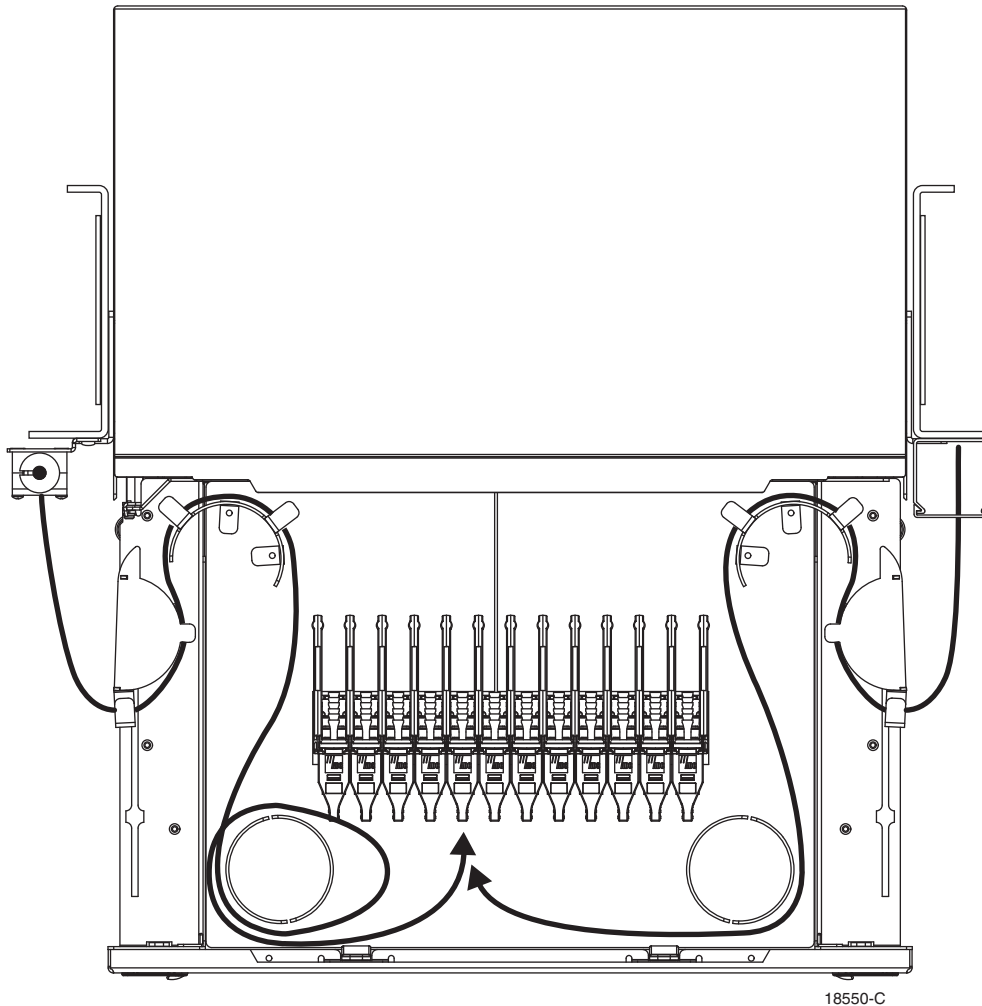
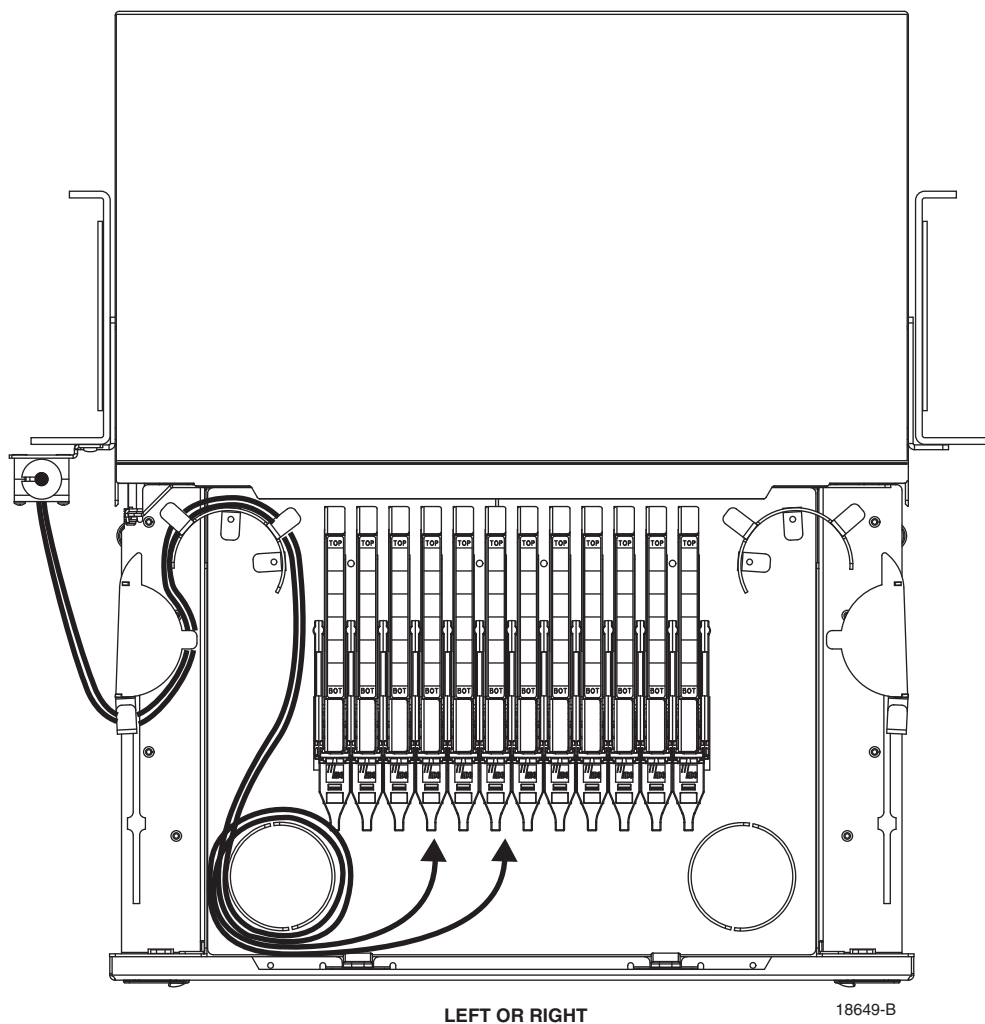

Figure 17. Cable Routing for 72-Position Micro-VAM Tray (Enter From Both Sides)
Figure 18. Cable Routing for 72-Position Micro-VAM Tray
5. Route the cables within the tray as shown in Figure 17 for entry from both sides or as shown in Figure 18 for entry from either left or right side. (Left side entry is shown. Routing for right side entry is a mirror image of the routing shown.) All cable are terminated on the front of the micro-VAMs.